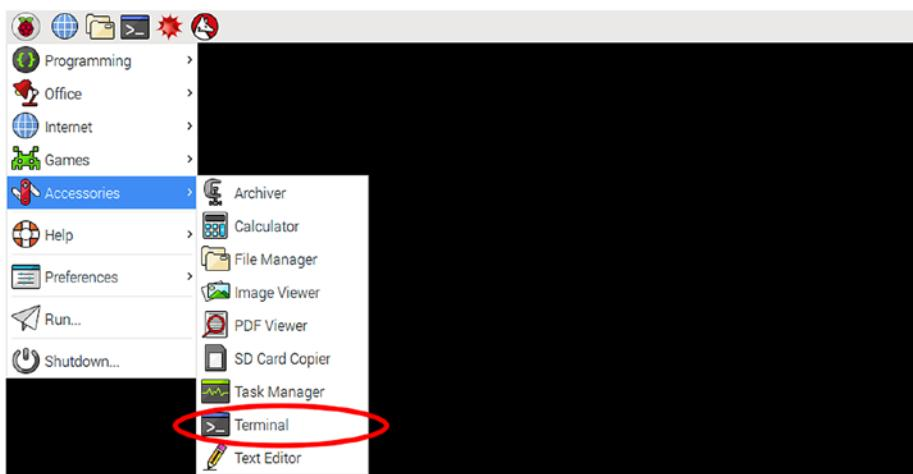
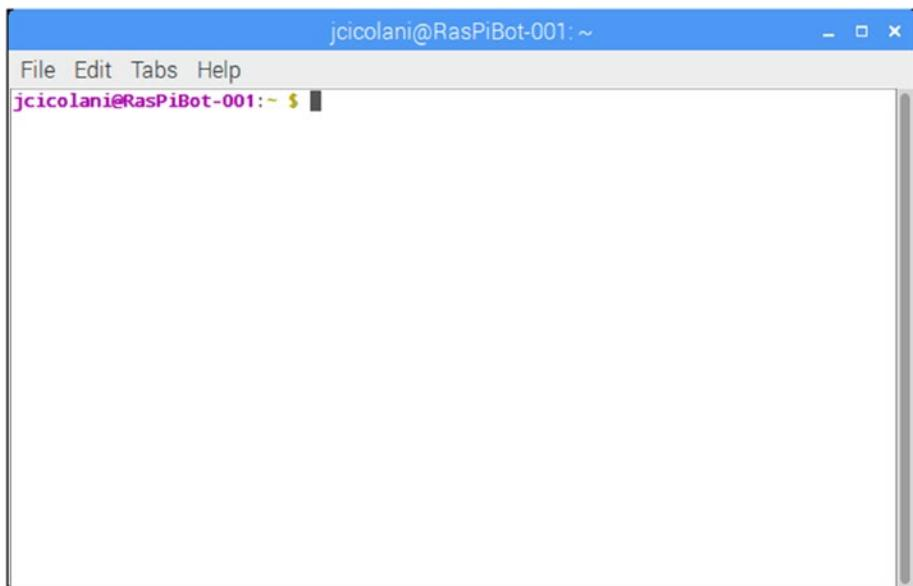

Figure 2-4. Terminal selection from the applications list. The terminal icon is also on the quick access bar.
Figure 2-5. Terminal window
2. Select **Accessories ▶ Terminal**, as shown in Figure 2-4. When opened, the terminal window is displayed (see Figure 2-5).